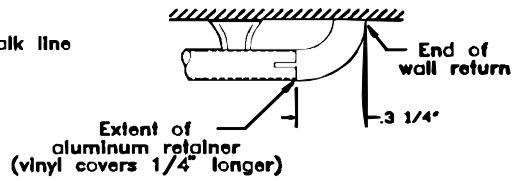
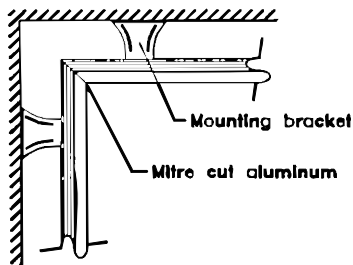

Fig 2
Fig 4
- Step 2:** Cut aluminum. All ends must be checked for squareness before assembly. See **fig. 2** and **3** for adjustments to aluminum length at wall returns and outside corners. Mitre aluminum to accommodate inside corners, see **fig. 4**